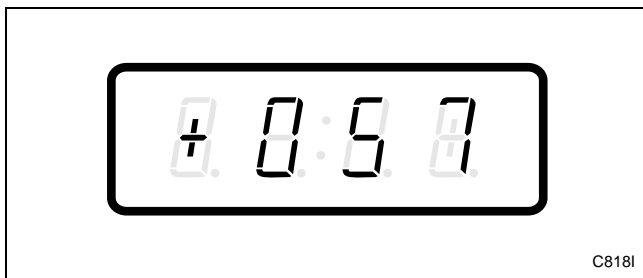

Figure 154
3. Press the DELICATES (+) or the COLD (-) keypad to scroll through the programmable options until “+057” appears in the VFD. Refer to *Figure 154*.